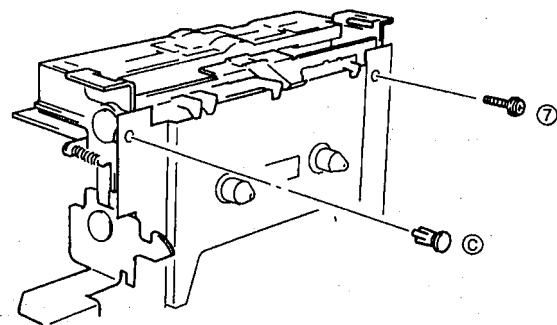

Fig. 7
- Remove 1 screw ( ⑦ ) and 1 plastic rivet ( ⑧ ) and then remove the Back Plate in Fig. 7.